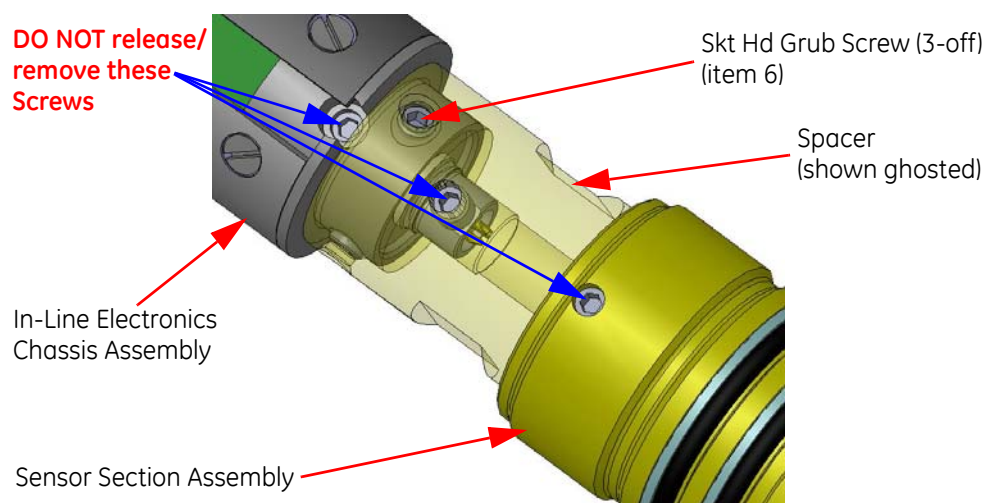

Figure 5-2 Identification of three Skt Hd Grub Screws to be removed
- 5 With reference to *Figure 5-2*, use an M5 Allen Key to turn clockwise (**inward**) the three Skt Hd Grub Screws (*item 6*) until they disengage from the Spacer (*Item 8, 416005*) to release the In-Line Electronics Chassis Assembly (*item 2*) from the Spacer.